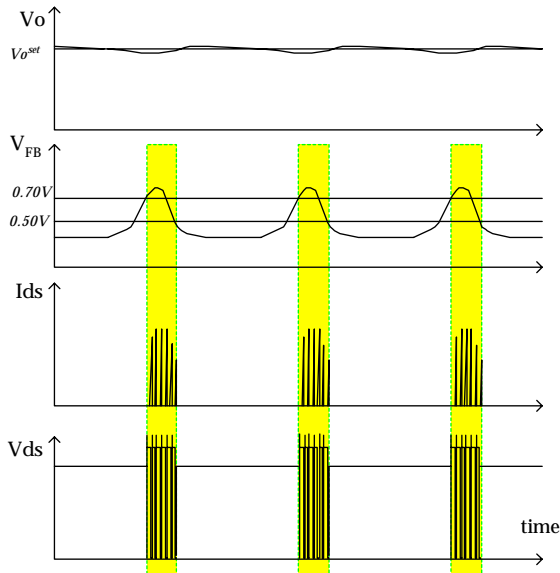

Figure 9. Waveforms of burst operation
4. Burst Mode Operation : In order to minimize the power dissipation in the standby mode, FSD1000 has burst operation for the auxiliary power. The FPS enters into the burst mode when the feedback voltage decreases as the load decreases. The operation principle of the burst mode is illustrated in Figure 9. When the feedback voltage drops below 0.5V, the FPS stops the switching operation. Then, the output voltage decreases below the set voltage, which increases the feedback voltage. When the feedback voltage rises above 0.7V, the FPS resumes the switching operation and the feedback voltage decreases. When the feedback voltage drops below 0.5V again, the FPS ceases the